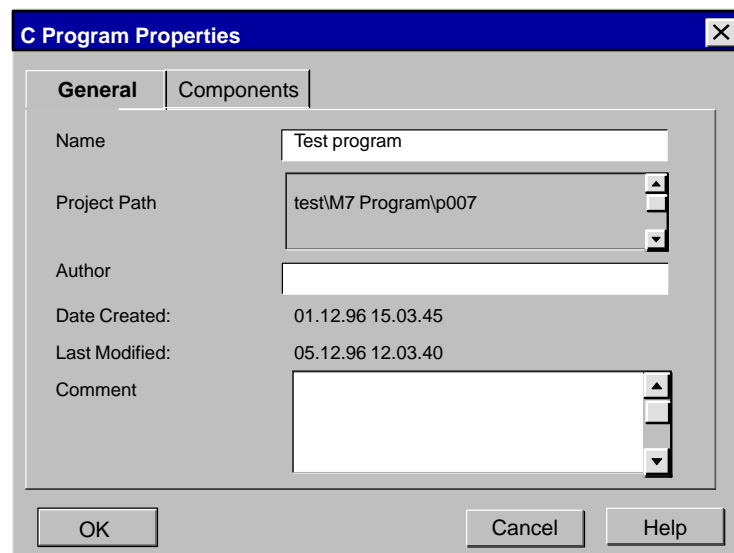

Figure 3-2 “C Program Properties” Dialog Box, “General” Tab
3. Open the “General” tab if you want to edit the program name or the author (Figure 3-2).